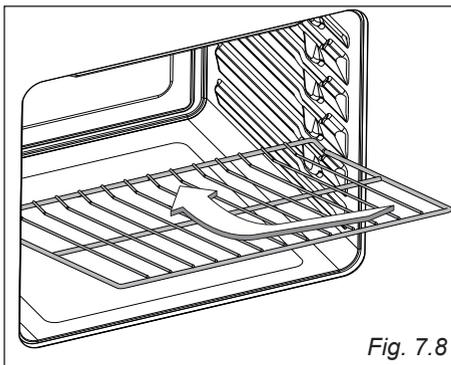

Fig. 7.8
- The oven shelf is provided with a security block to prevent accidental extraction. It must be inserted operating as per figure 7.8.